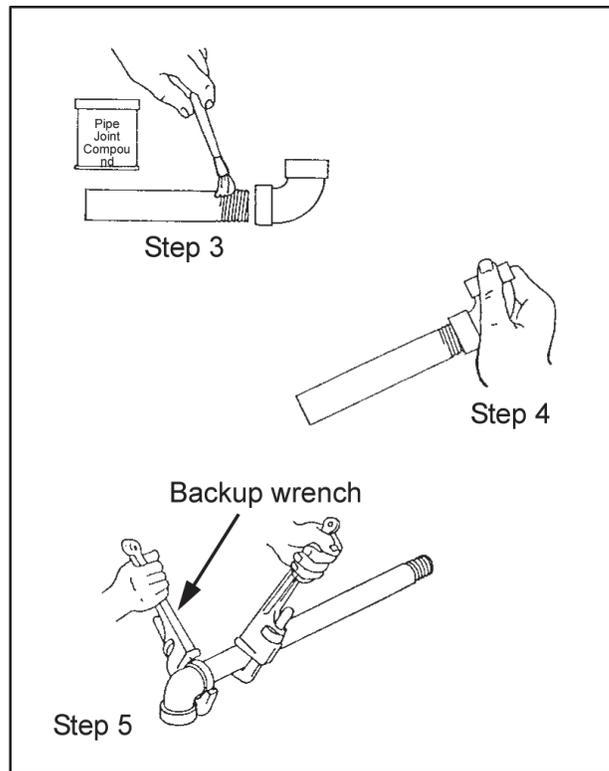

Figure 6-30. Joining threaded pipe
6-60. Fittings are normally screwed to the pipe after it is threaded, while the pipe is still in the vise. This ensures a good fit. The assembled pipe and fittings should then be screwed into the proper place in the installation. Use figure 6-30 and the following joining steps:
- Step 3.** Apply pipe-joint compound or Teflon tape to the pipe threads only (figure 6-30).
- Step 4.** Screw the fitting on, hand tight (figure 6-30).
- Step 5.** Tighten the fitting using two pipe wrenches, one on the fitting (backup wrench) and the other on the pipe (figure 6-30), provided no vise is available. The backup wrench keeps the fitting from turning.